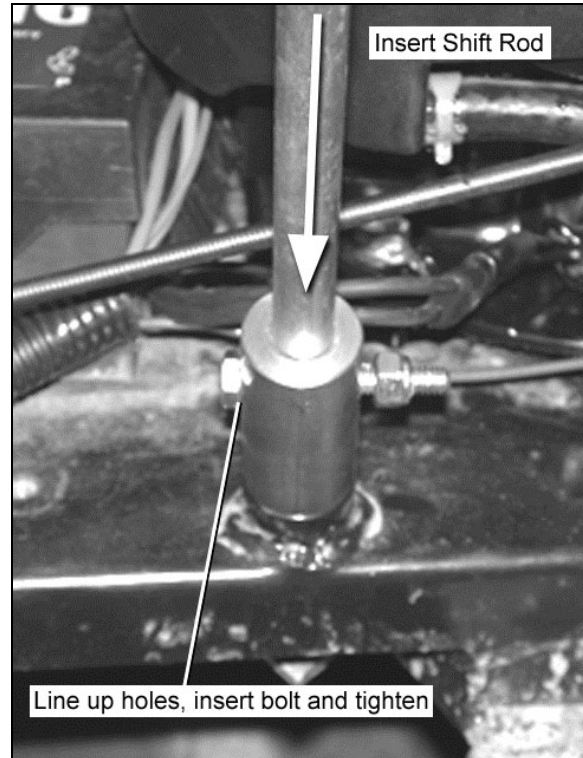

Figure 3
2. Insert the lower end of the shift rod into the shift coupling. Line up the holes on the shift rod and the shift coupling. Insert the bolt, mount the nut and tighten (*Figure 3*).